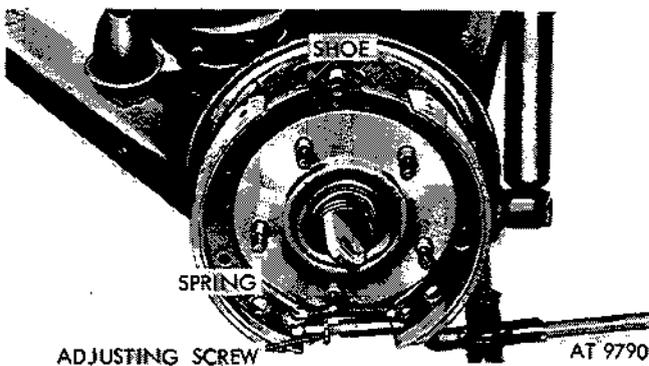

Figure 2-371. Remove brakeshoes.
(5) Remove both brakeshoes with adjusting screw assembly and adjusting spring intact from backing plate (fig. 2-371). Lift off entire assembly.
(6) Remove brakehoe adjusting screw assembly and spring from brake shoes (fig. 2-371).